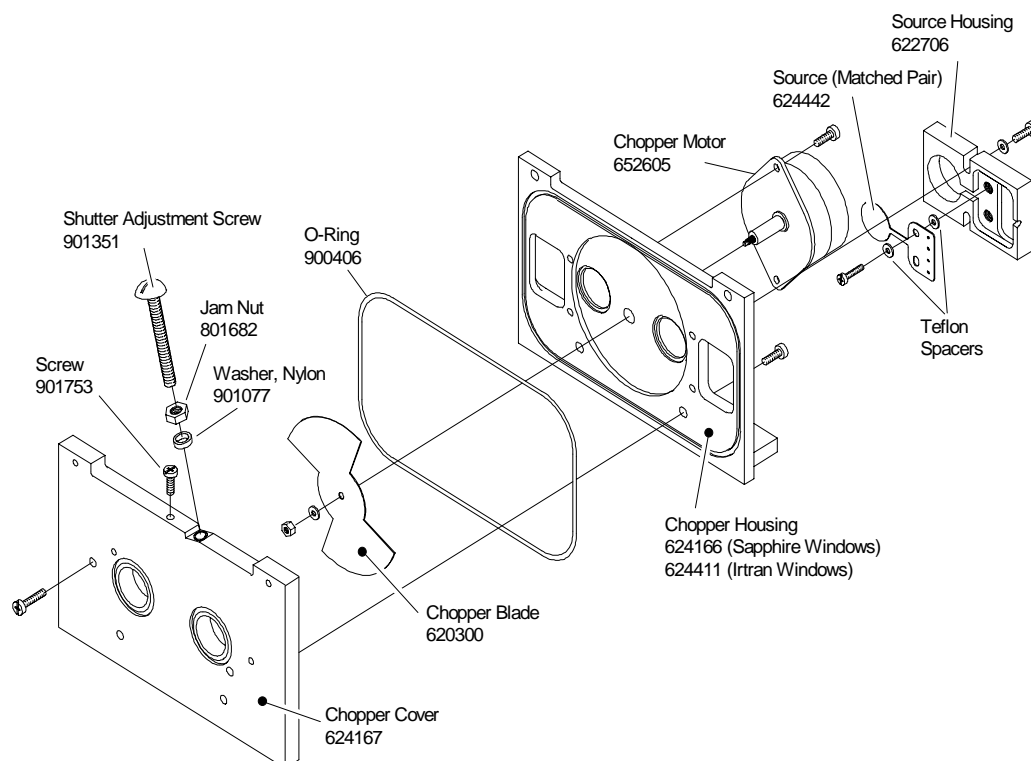

FIGURE 6-2. MOTOR/SOURCE ASSEMBLY
Refer to Figure 6-2. Sources are marked with the resistance value, for example, 11.5 - 11.6 in matched pairs. Install the higher value as the reference source.
3. Refer to Figure 6-2. Remove chopper cover.